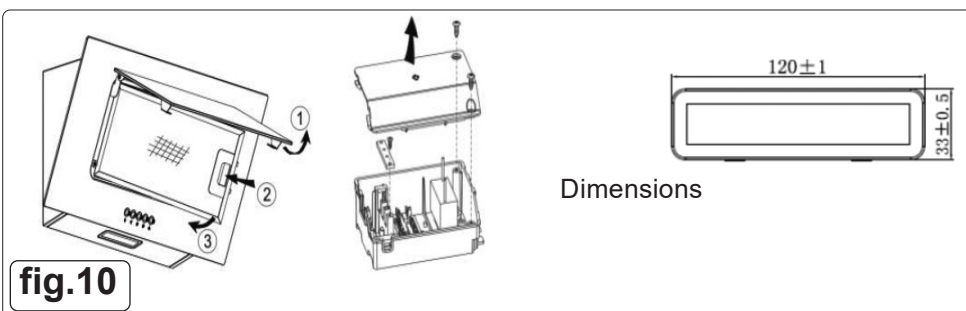

fig.10
- Locate the junction box, unscrew the screws on the junction box cover, then take off the junction box cover. If there is wire retaining plate this needs to be dismantled first. See fig.10.
- Locate the terminal of the light connecting wire disconnect. (See fig.10).
- dimensions see fig.10.